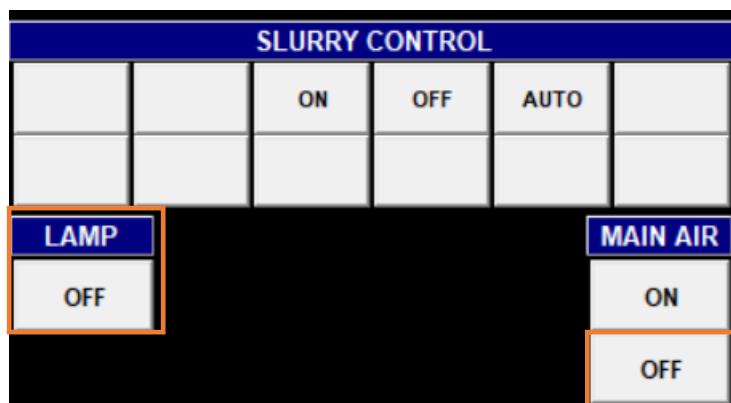

Figure 21 – AIR OFF – LAMP OFF
1. Press the “AIR OFF” and “LAMP OFF” buttons in the “Zeeko GUI”. See (Figure 21 – AIR OFF – LAMP OFF).